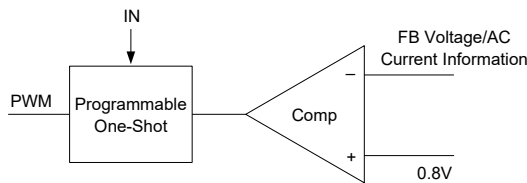

Figure 4. Simplified Control Schematic of AOZ2151PQI-03
The simplified control schematic is shown in Figure 4. The high-side switch on-time is determined solely by a one-shot whose pulse width is inversely proportional to input voltage (IN). The one-shot is triggered when the internal 0.8V is higher than the combined information of FB voltage and the AC current information of inductor, which is processed and obtained through the sensed lower-side MOSFET current once it turns-on. The added AC current information can help the stability of constant-on time control even with pure ceramic output capacitors, which have very low ESR. The AC current information has no DC offset, which does not cause offset with output load change, which is fundamentally different from other V^2 constant-on time control schemes.